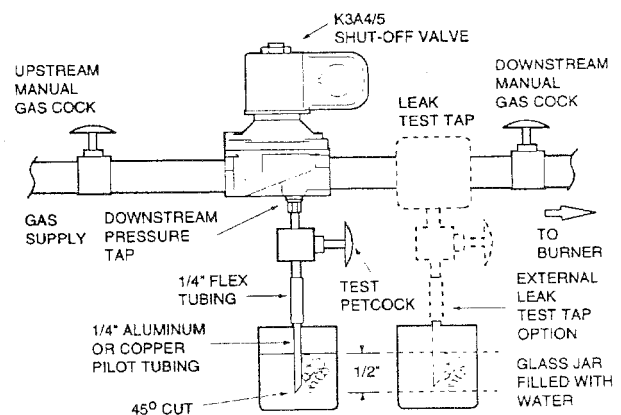

Figure 3. Testing for internal seat leakage.
Series K3A4 and K3A5 valves are provided with two 1/8" NPT tapped and plugged holes (pressure taps). The upstream tapped and plugged hole is on the side of the valve body; downstream on the bottom of the valve body. One upstream for pressure testing; one downstream for seat leakage testing. Leakage testing frequency shall be at least annually in accordance with NFPA -86 or original equipment manufacturer recommendations. For instructions, refer to section on *Testing for Internal (Seat) Leakage* and Figure 3.
Testing for Internal (Seat) Leakage (Refer to Figure 3) .A
4. Shut off the upstream manual gas cock and de-energize valve. Remove the plug from the leak test tap or downstream pressure tap in the valve body. Connect leak test equipment with the test petcock in the closed position (Figure 3).